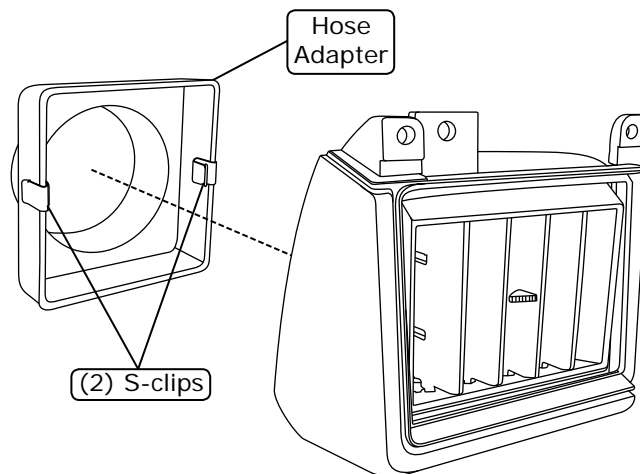

Figure 6
1. Install (2) S-clips onto each hose adapter as shown in Figure 6, below.
2. Install the driver & passenger side hose adapters onto the OEM louvers (See Figure 6, below).